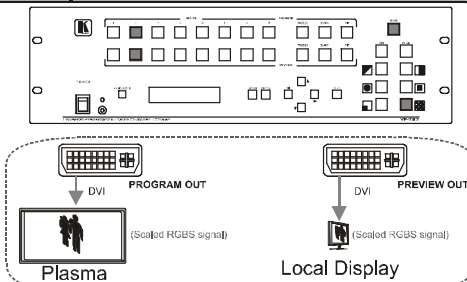

Figure 8: Example showing the use of the PREVIEW and PROGRAM Output
- See how the scaled output will look before displaying live during a presentation. As the example in Figure 8 illustrates, after seeing how the RGB source looks when scaled to DVI, it can be interchanged with the YUV source, seamlessly, using an elaborate (in this case chessboard) transition effect
- The Follow mode (shown in Figure 8) in which the PROGRAM input button is switched to the same position as the PREVIEW input button after the TAKE button is pressed
- The Swap mode, in which the PREVIEW input buttons and the PROGRAM input buttons switch places after pressing the TAKE button. For example, in Figure 8 the PROGRAM input button 3 would switch to 2 and the PREVIEW input button 2 would switch to 3, so the RGB source is displayed on the PROGRAM screen and the HD Component source is displayed on the PREVIEW screen.